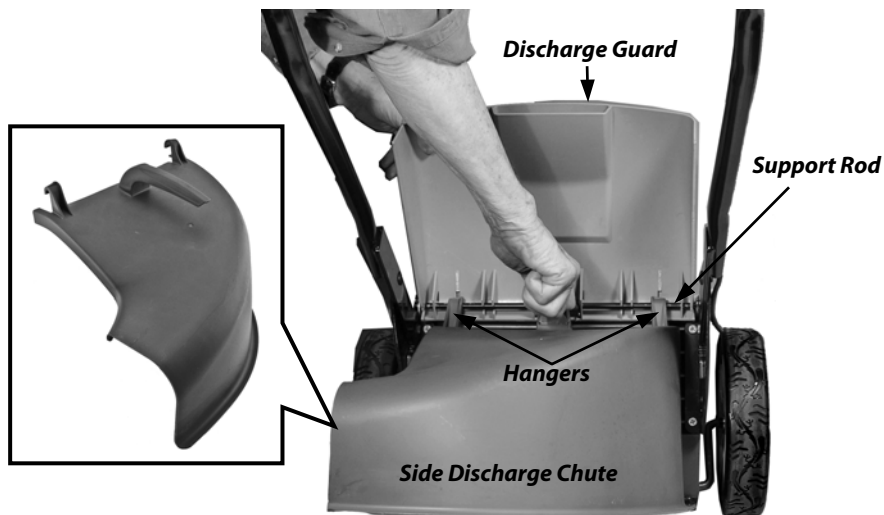

Figure 5
The Side Discharge Chute (**Figure 5**) allows for proper discharge of the grass, which prevents clogging. The Chute is shipped without the Handle so you will have to install the Handle prior to use using a small Phillips Screwdriver. The Handle and Screw are located in the Product Pack bag that shipped with the Mower.
1. Raise the hinged Discharge Guard on the back of the Mower (**Figure 5**).
2. Orient the Discharge Chute as shown in **Figure 5**. Position the two (2) Hangers on the Chute over the Support Rod (**Figure 5**) and lower the Chute into place (**Figure 5**).